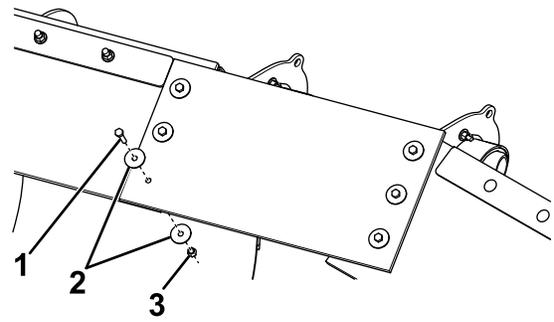

Figure 16
12. Drill a 9.5 mm (3/8 inch) hole through the belting, and secure the 2 sections together using a bolt (1/4 inch), 2 fender washers, and a nylon locknut (1/4 inch) as shown in Figure 16.
14. Drill a 9.5 mm (3/8 inch) hole through the belting, and secure the 2 sections together using a bolt (1/4 inch), 2 fender washers, and a nylon locknut (1/4 inch) as shown in Figure 16.
10. Drill a 9.5 mm (3/8 inch) hole through the belting, and secure the 2 sections together using a bolt (1/4 inch), 2 fender washers, and a nylon locknut (1/4 inch) as shown in Figure 16.